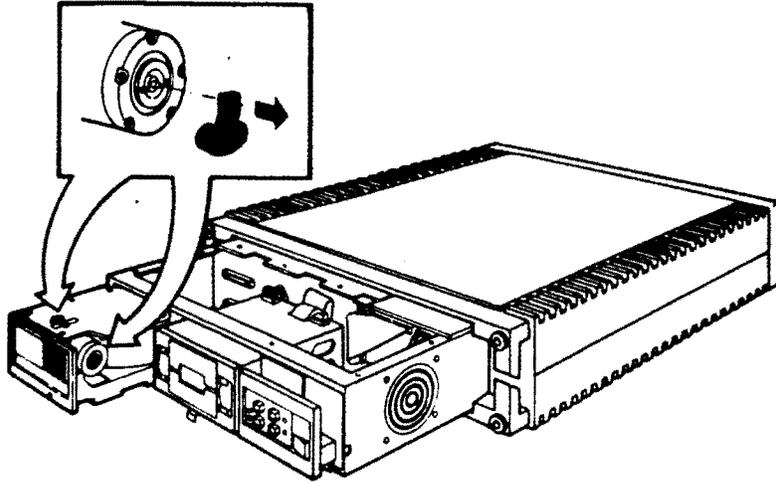

Figure 6-16: RD52 Head Positioning Arm Cover Removal
3. Remove the red plastic cover on the head positioning arm and tape it to the top of the drive (Figure 6-16).